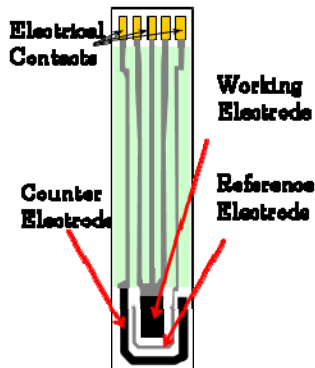

Figure 1. Schematic drawing of an integrated screen-printed electrode.
Students use a disposable electrode strip (as illustrated in Figure 1) screen-printed with a carbon working electrode (WE), a counter electrode (CE), and a silver/silver chloride reference electrode (REF) (Pine Instruments). Students simply plug the electrode strip into a reusable connector and the electrode handily fits in most vials. The metal electroplating can be conveniently performed in a simple 20 mL Scintillation vial using either a two terminal battery-powered configuration or 3-electrode potentiostat controlled cell configuration. The best metal films have been obtained using 3-electrode potentiostat controlled cell.
Nickel (Ni) plates very readily on the as-received carbon strip electrodes. A standard Watts Ni plating bath was prepared using 290g nickel sulfate hexahydrate, 30g boric acid, and 8g of sodium chloride per liter of solution. The Ni plating solution is rather stable and about 10 mL of the solution is sufficient for each student to complete all the tasks per lab session. Using a potentiostat, the potential of the carbon WE was held in Ni plating solution at  $-1.2\text{V}$  vs. Ag/AgCl REF for 90 seconds. Alternatively, students can use three 1.5 V AA batteries arranged in series as the power source for Ni plating by attaching the WE (as cathode) lead to negative terminal and CE (as anode) lead to positive terminal. Student should observe a vividly white Ni deposit layer gradually replacing the black carbon WE surface during the 90 seconds plating process. Vertical orientation of carbon strip electrode permits easy capture of images by a digital camera, Figure 1. For validating Faraday's Law, a weighable Ni deposit ( $> 2.0\text{ mg}$ , analytical balance needed) can be achieved by a longer plating time of one hour. Ethanol (10%) was added to the Watts Ni plating solution to improve the plating stability by preventing the carbon counter electrode from oxidizing itself. Overall electric charge can be recorded by the potentiostat.